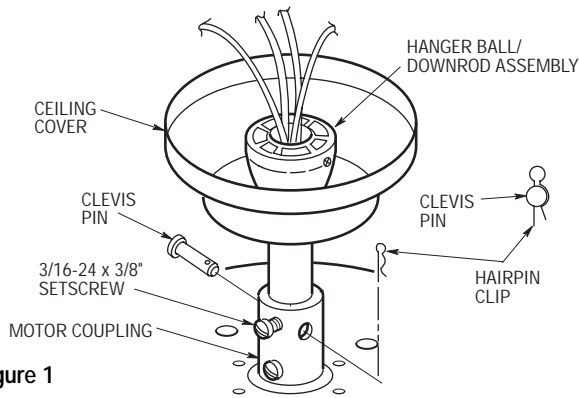

Figure 1
3. Loosen the upper two 3/16-24 x 3/8" setscrews in the motor coupling. Align the clevis pin holes in the downrod with the holes in the motor coupling. Install the clevis pin and secure with the hairpin clip (Figure 1). The clevis pin must go through the holes in the motor coupling and the holes in the downrod. Be sure to push the straight leg of the hairpin clip through the hole near the end of the clevis pin until the curved portion of the hairpin clip snaps around the clevis pin. The hairpin clip must be properly installed to prevent the clevis pin from working loose. Pull on the hanger ball to make sure the clevis pin is properly installed.
4. While pulling up on the hanger ball, tighten the two upper 3/16-24 x 3/8" setscrews in the motor coupling securely (Figure 1).